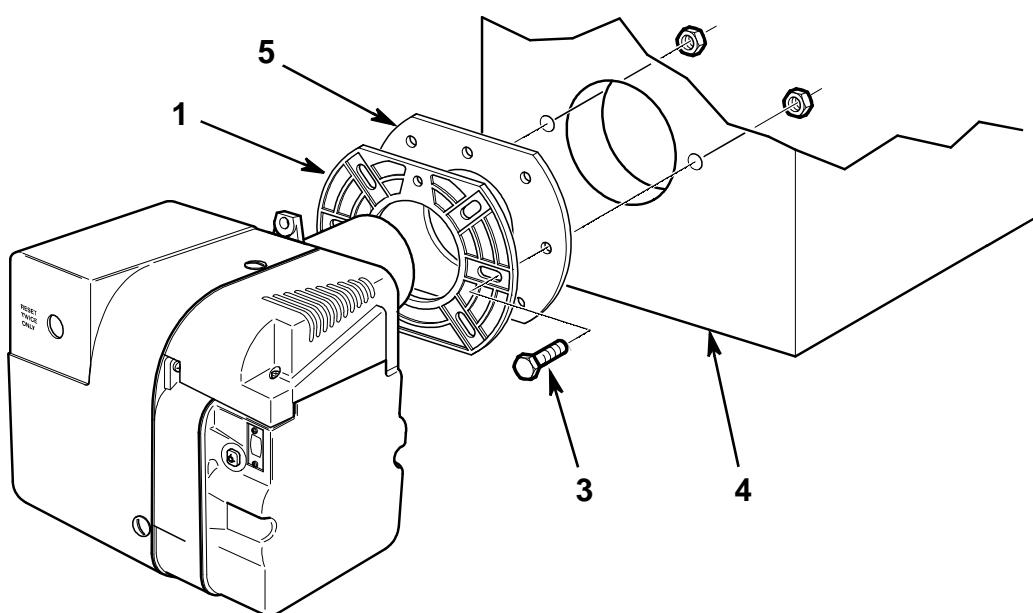

Fig. 6
- Fix the flange (1) to the appliance (4) using the supplied nuts (3) with the gasket (5) inbetween as in Fig. 6.
- Fix the securing nut (8)(Fig. 6) onto the bolt (6).